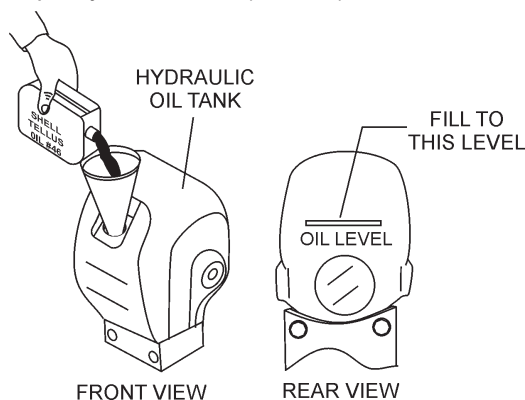

Figure 34. Hydraulic Oil Maintenance
2. Using a funnel, add **ShellTellus Oil #46** or equivalent to the hydraulic oil tank through the oil filler port (Figure 34). Oil tank capacity is 50.7 fl. oz (1500 cc)